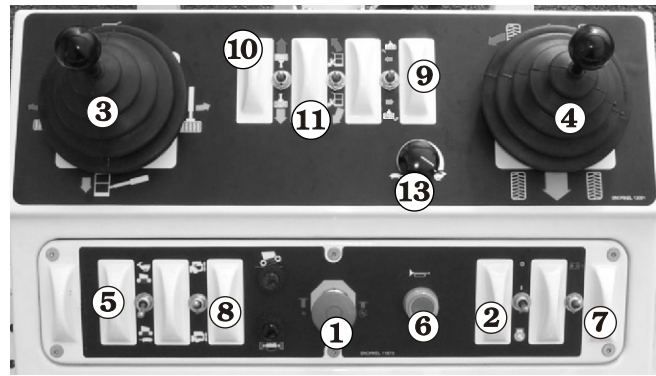

Figure 5.4—Platform Controls, SP17 (Electric Controls)
4. **Drive and Steer Joystick:** The drive and steer joystick (refer to Figures 5.4 and 5.5) controls drive forward and reverse, and steer right and left. The steering and drive functions may be operated simultaneously.